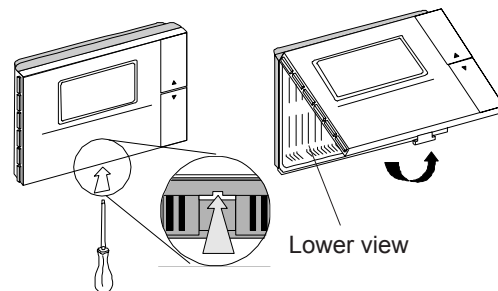

Fig. 8.1
1. Separate the cover of the instrument from the bodypart using a screwdriver as shown in Fig. 8.1.